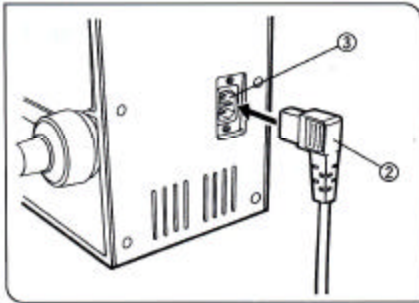

Fig. 11
1. Connect the power cord plug ② to the AC receptacle ③. (Fig. 11)